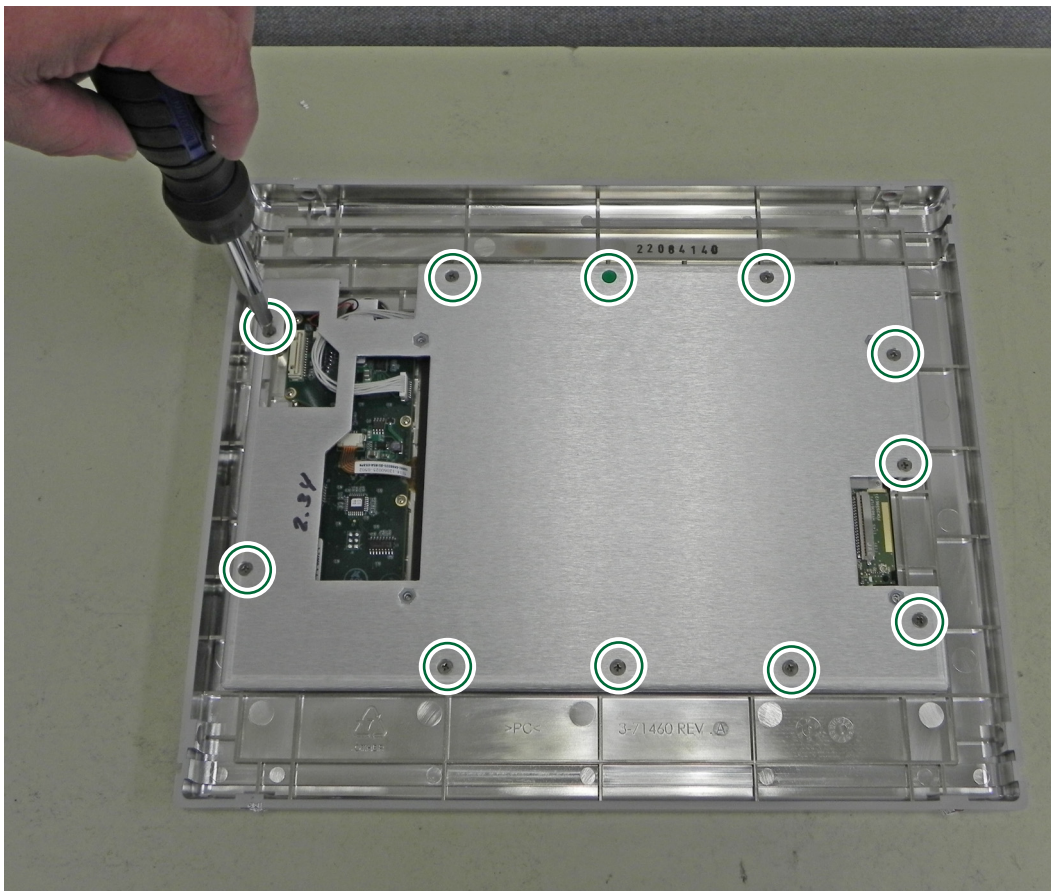

Figure 5-23. LCD Bracket Removal
2. Remove the 11 screws holding the LCD bracket to the PIM Master front panel (Figure 5-23). Reassembly torque is 0.64 N · m (5.7 lbf · in).